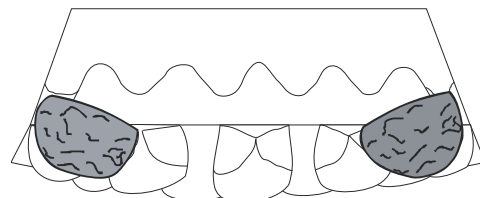

Figure 21
3. Position **two Large Rounded coals** on the two ends of the front matrix as shown in **Figure 21**. Ensure that the flat faces on the coals are facing into the fire, vertical and level with the inner face of the matrix.